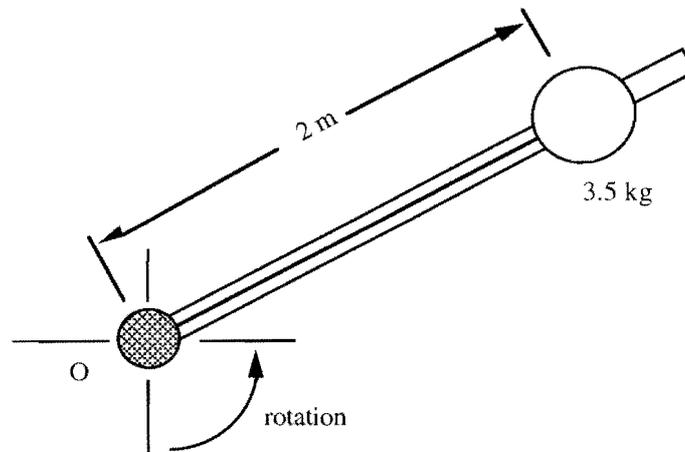

Figure 5
7.† A smooth rod is rotating in a horizontal plane about  $O$ . A mass of  $3.5$  kg, which is free to slide along the rod, is attached to a thin wire whose other end is connected to a small winch at  $O$ . At the particular instant shown in Fig. 5 the mass is a distance  $2$  m from  $O$ ; the magnitudes of the angular velocity and angular acceleration of the rod are  $1$   $\text{rads}^{-1}$  and  $3$   $\text{rads}^{-2}$  respectively and the winch is pulling the mass along the rod so that the magnitudes of its radial velocity and acceleration relative to the rod are  $5$   $\text{ms}^{-1}$  and  $4$   $\text{m s}^{-2}$  towards  $O$  respectively. Calculate the tension in the wire and the magnitude and direction of the force exerted by the rod on the mass.